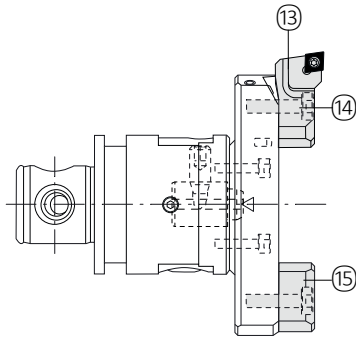

Fig. 5
**Insert holder for boring and counter weight (Fig. 5)**